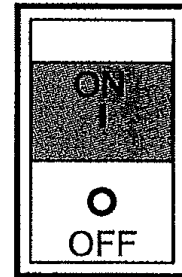

Figure 41. Main Circuit Breaker ON (GFCI Test)
2. Place the main circuit breaker in the ON position (Figure 41).